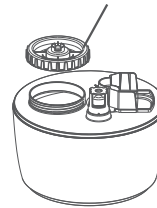

Fig.2
- 2) Lift up the water tank and turn the water tank nut in counter-clockwise direction. Take off the water tank nut (see Fig.2). Then add water into the water tank. After it is filled with water, turn the water tank nut in clockwise direction to tighten it up;
When moving the humidifier, always hold the device by the base (Fig. 1), in order to avoid the fall of the part of the device, with the main electronic components. If there is water in the device, in order to avoid its entry into the electronic units through the air outlet (Fig. 2), keep it horizontal.